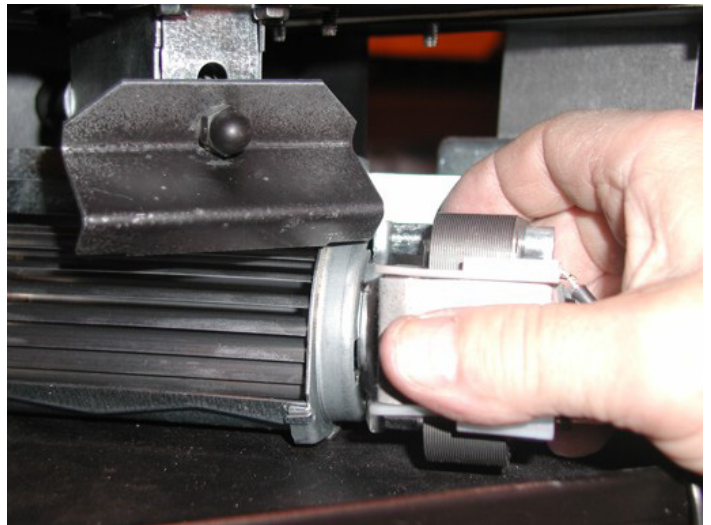

Figure 10
6. Now gently rotate the blower assembly counter-clockwise 90 degrees as you continue to move the blower assembly to the left, clearing the 2 latch brackets and pilot connections. See Figure 10.